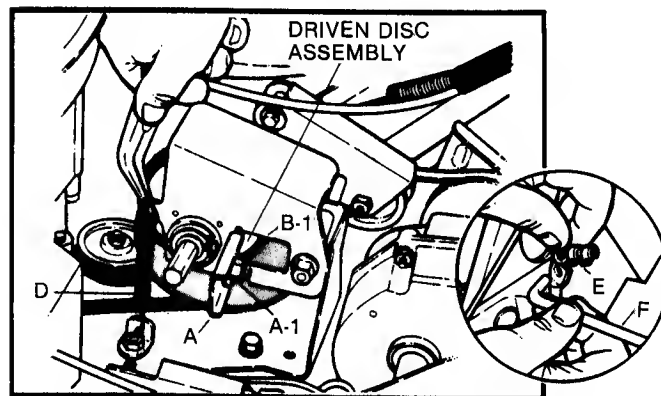

FIG. 14 - DRIVEN DISC ASSEMBLY
- ☐ Grease on drive disc (C)-causing slippage.
- ☐ Broken or disconnected DRIVE SPRING (D) (also refer to FIG. 14).
- ☐ Driven disc rubber ring (B-1) worn - not contacting drive disc (C) properly.
- ☐ Driven disc (B) out of adjustment
**DRIVEN DISC REPLACEMENT:** If the driven disc rubber ring (B-1) is found to be badly chunked or worn down to within  $\frac{1}{16}$ " of the metal rim of the driven disc hub (B), it must be replaced. Remove the clip (E) at end of speed control rod, and then turn the transfer rod (F) to a upright (vertical) position and detach from the connector (A) (FIG. 14 & 15). Unhook drive spring (D) (use needle nose pliers) and slide the driven disc assembly off hex-shaft.